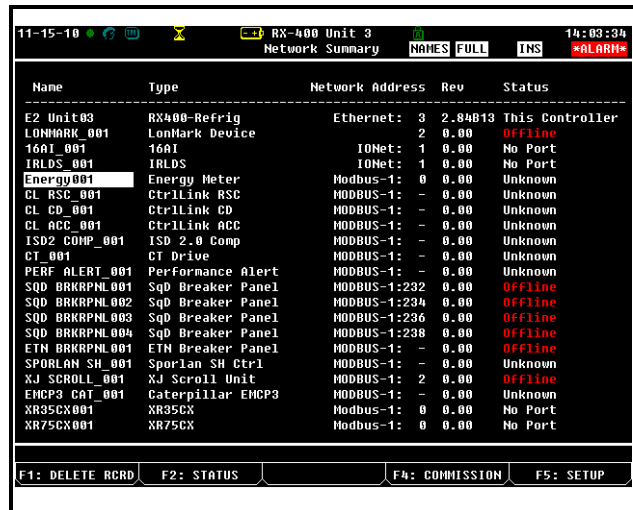

Figure 6-4 - Network Summary Screen
10. When finished, press **)** to return to the Network Setup menu, then press **1** - **Network Summary** (Figure 6-4). Locate the Energy Meters you set up, and look at each device's status in the **Status** field. You will see one of the following messages: